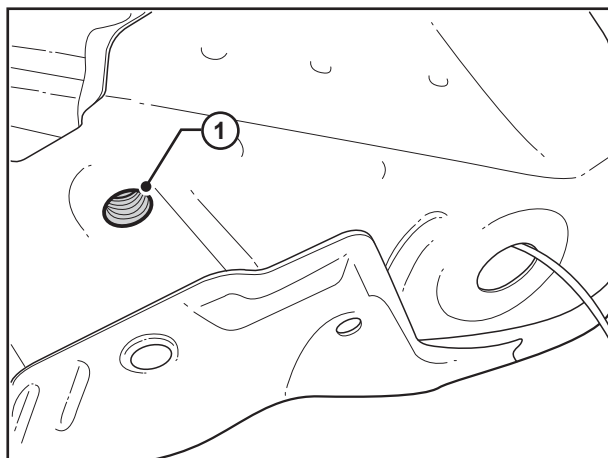

FIGURE 5
- Align the threaded hole in tapped plate **(1)** above the enlarged 13mm hole in Step 3 as shown in Figure 5.